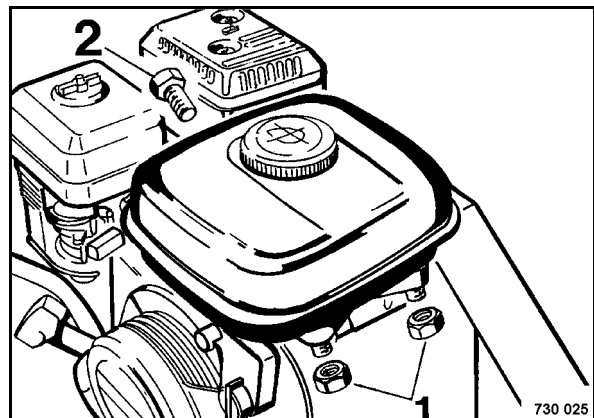

Fig. 53
- Disassemble the fuel tank, for this purpose unscrew hexagon nuts (1) (Fig. 53) and hexagon screw (2).